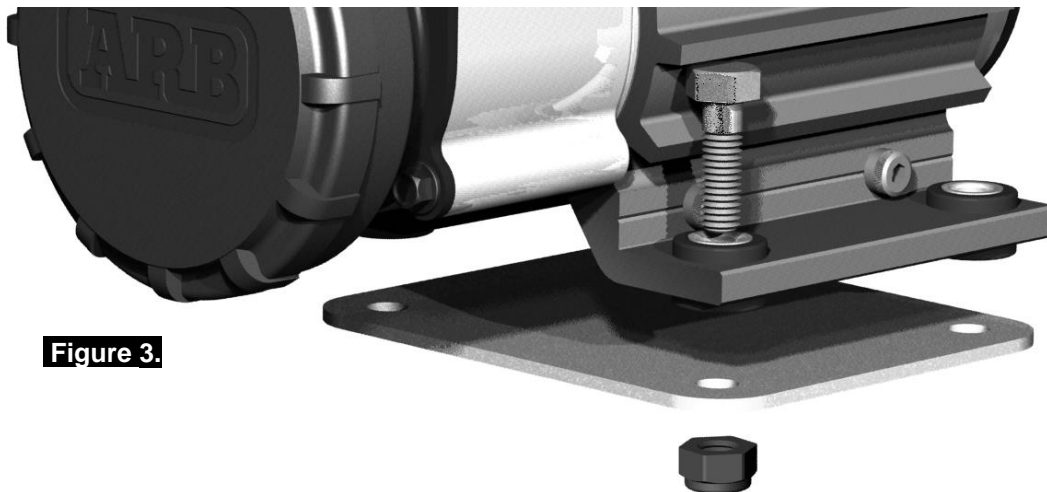

Figure 3.
- Install the locking nuts with the nylon locking flange facing away from the backing plate (as shown in Fig 3.). Tighten to a torque of approximately 3.5 Nm [2.5ft-lb].